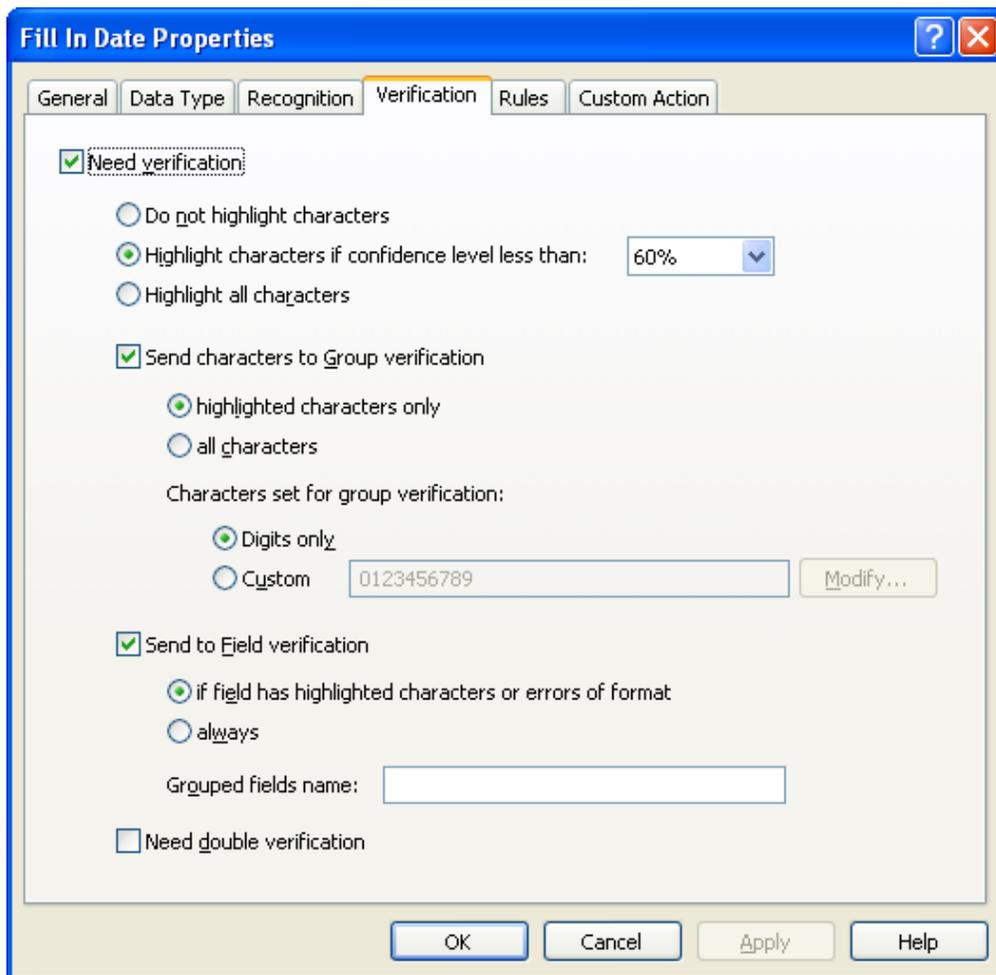

Figure 11. Field Properties dialog box, Verification tab
**Verification** is checking recognized data by an operator. During Document Definition creation, you can configure the verification settings on the **Verification** tab of the Field Properties dialog box (Figure 11). Uncertainly recognized characters will be highlighted by the program and sent to an Operator for checking. However, it is also possible to configure verification in such a way, that the field will be sent to an Operator even if there are no uncertain characters, or vice versa, won't be sent for checking even if there are uncertainly recognized characters. Choose *all* (required verification) if you want to be absolutely sure there is no error in the field value.